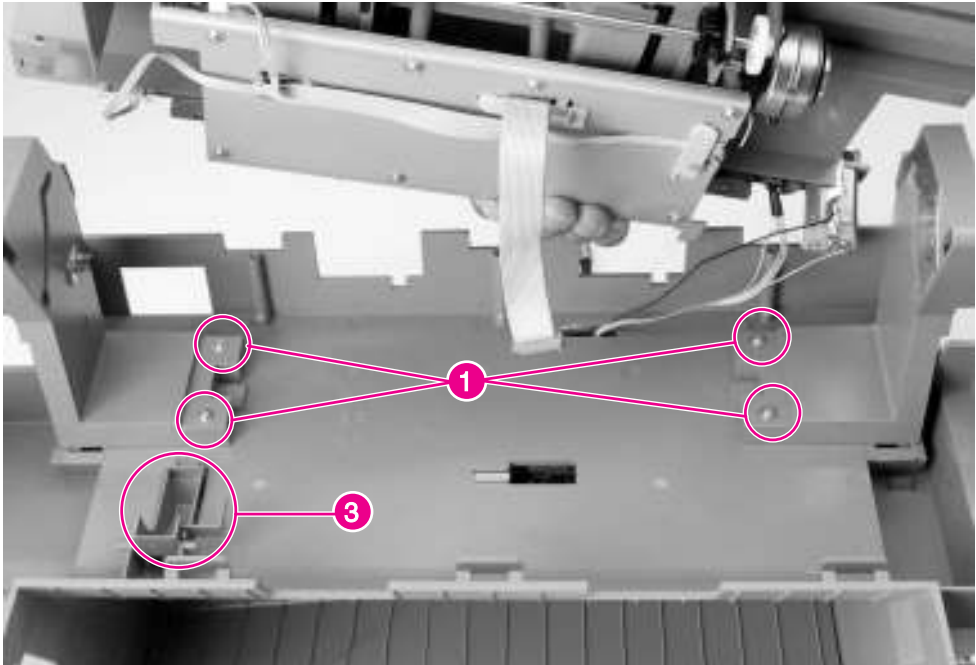

Figure 6-187 Hinges
Make sure that the actuator is oriented as shown in its proper place before replacing the Stapler Bed Assembly (see figure 6-187 on page 373, callout 3).
- 5 Remove 2 screws joining each hinge to the housing (see figure 6-187, callout 1).